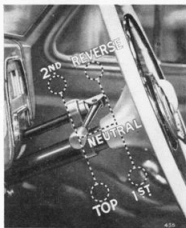

Fig. 3.
**Gear Lever.** For selecting the gears, see Figs. 3 or 3a. Always select neutral position before starting the engine.